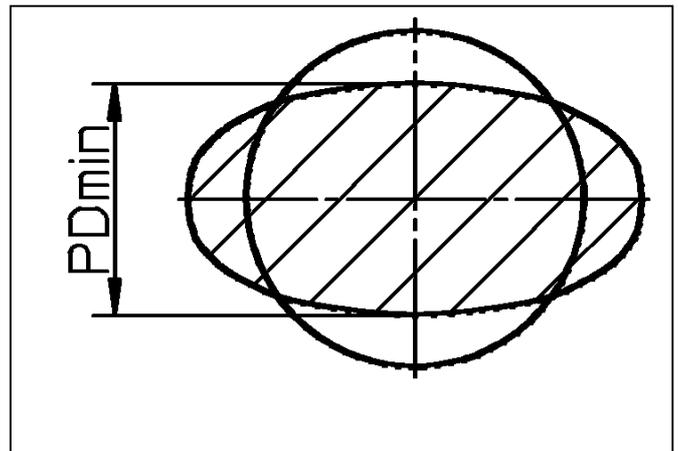

Fig. 14
- If the coupling has a distinct torsional backlash, or if the minimum buffer thickness ( $PD_{min}$ , Fig. 14) according to table 12 is reached, we recommend to replace the elastic buffers.